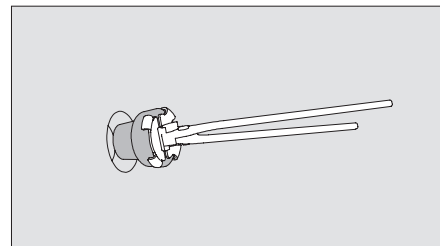

Fig. A5.16
2. Close the tie hole with a suitable cone, e.g. PERI Concrete Cones. (Fig. A5.16)